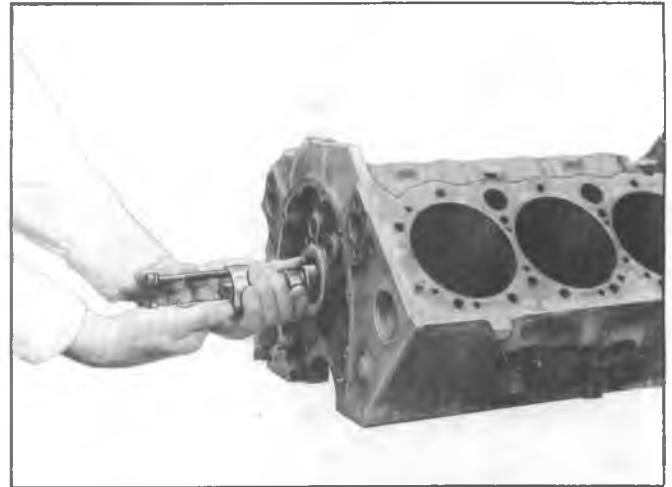

Fig. 6A4-34--Removing Camshaft
6. Install two 5/16" - 18 x 4" bolts in camshaft bolt holes then remove camshaft (fig. 6A4-34).